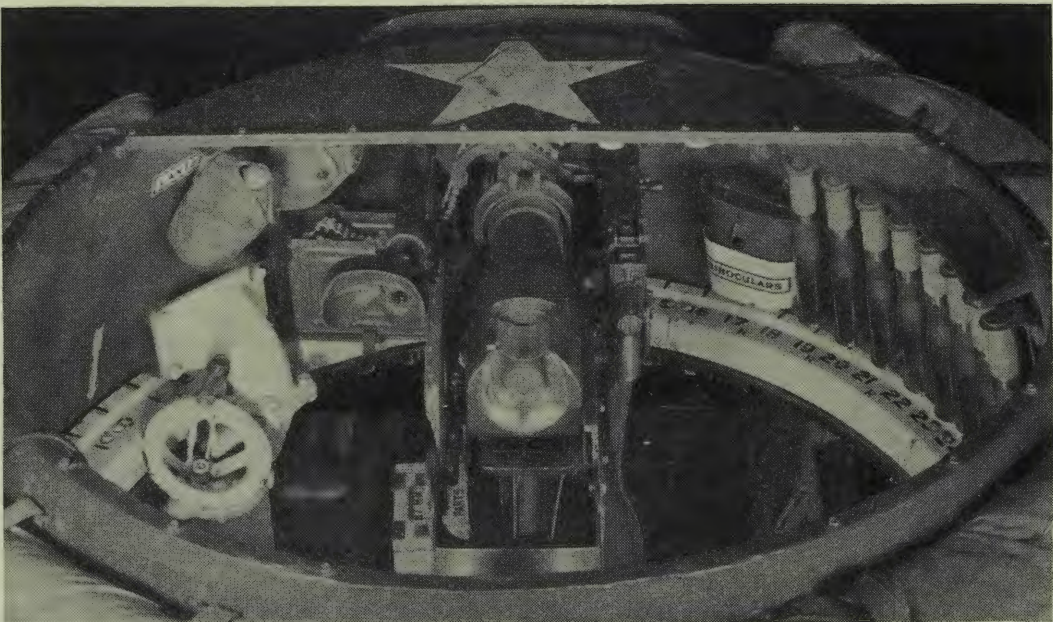

FIGURE 5.—Turret showing location of guns, sight, and other equipment.
■ 16. GENERAL.—The gun crew of the 37-mm antitank gun consists of the gunner who aims and fires the piece, and the car commander who controls and adjusts fire and also acts as assistant gunner and loader. See paragraphs 10 to 14, inclusive, of the appendix for duties of crew in serving the turret guns. (See fig. 5.)